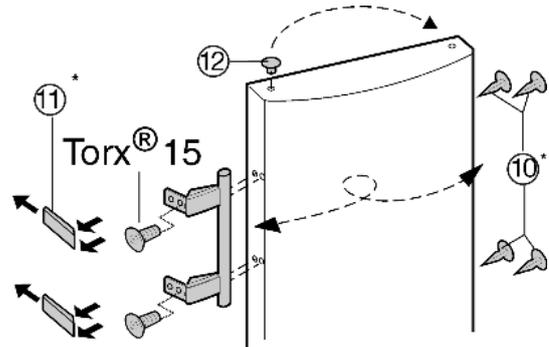

Fig. 8
- Lift the stopper Fig. 8 (12) out of the door bearing bush and transfer it.
- Detach door handle, stoppers Fig. 8 (10) and pressure plates Fig. 8 (11) and transfer to the opposite side.